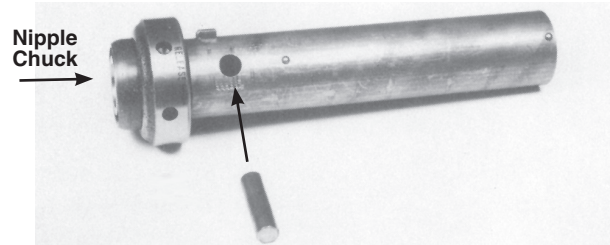

Figure 3 – Installing Nipple Chuck to Adapter
5. Insert pin through the hole. Pin should be flush with sleeve. See Figure 3.